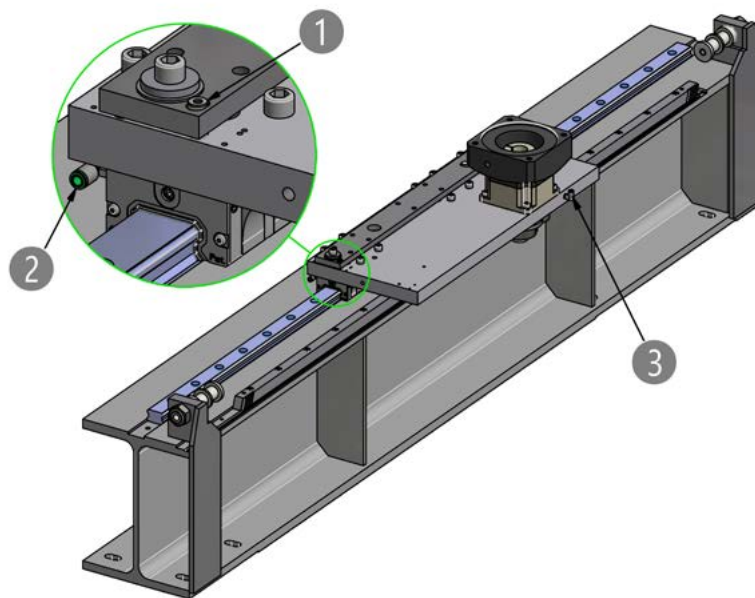

Figure 3.16 __ Position of the cylinder bolt and the lubrication connections of Beam Axis for parallel use
During assembly, the Linear Axis must be aligned in parallel and finally fastened. To activate the compensation system, the cylinder bolt ❶ (Figure 3.16) must then be removed.
The carriages ❷ and the rack and pinion drive ❸ of the Linear Axis AXS200M_ and AXS300MP are equipped with lubrication connections for central lubrication systems. The position of the lubrication connections are shown in Figure 3.16.